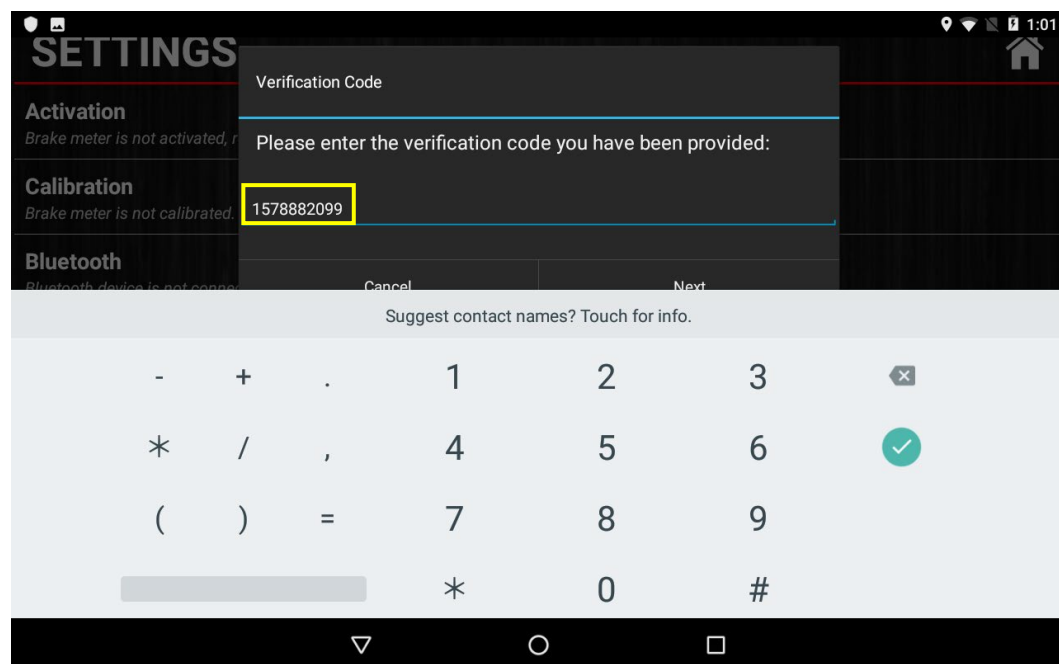

Figure 11
Step 3: You will be prompted with a window (Figure 11) to submit the form after confirming details of the unit. If the activation is successful it will prompt "**Brakemeter has been activated**".